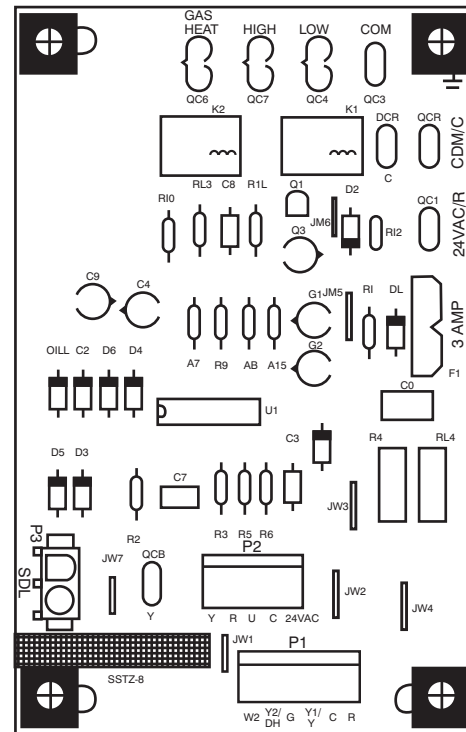

Fig. 13 - Interface Fan Board (IFB)
This unit is factory-set up for use with a single cooling fan speed. The cooling speed is marked “LOW” on the interface fan board (IFB) (See Fig. 13) . The factory-shipped settings are noted in Table 7. There are 3 additional speed tap wires available for use in either gas heating or cooling (For color coding on the indoor fan motor leads, see Table 6). The additional 3 speed tap wires are shipped loose with vinyl caps and are located in the control box, near the interface fan board (IFB) (See Fig. 13).
2. Remove the current speed tap wire from the “GAS HEAT” terminal on the interface fan board (IFB) (Fig. 13) and place vinyl cap over the connector on the wire.
2. Remove the current speed tap wire from the “LOW” terminal on the interface fan board (IFB) (See Fig. 13) and place vinyl cap over the connector on the wire.
1. Remove fan speed tap wire from the “LOW” terminal on the interface fan board (IFB) (See Fig. 13).
When the DEHUM feature is not used, the continuous fan speed will be the same as cooling fan speed. When the DEHUM feature is used, the continuous fan will operate on IFB “LOW” speed when the DH control lead is not energized, or IFB “HIGH” speed when the DH lead is energized (see Fig. 13).